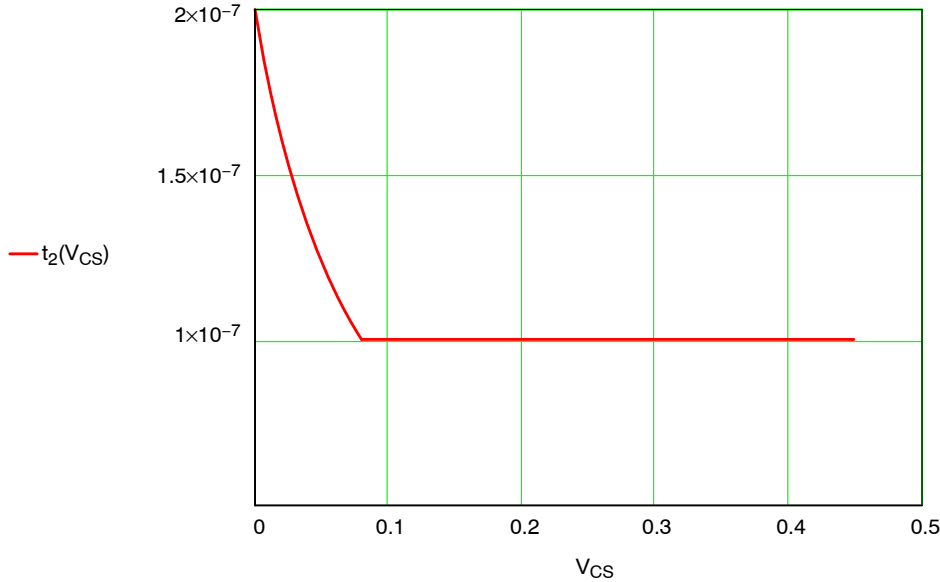

Figure 28. The Dead Time Evolution with the Sensed Current
If we plot (18) using Mathcad as  $V_{CS}$  varies from 0 to 0.45 V, we obtain Figure 28 graph: